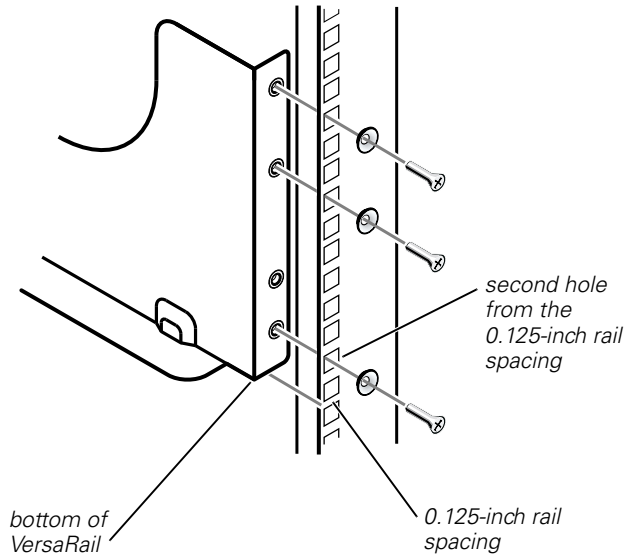

Figure 1-2. Aligning the VersaRail
2. Align the VersaRail with the rack's front vertical rail (see Figure 1-2).
3. Position the VersaRail's mounting flange against the inner side of the rack's front vertical rail so that the bottom of the VersaRail is aligned with the 0.125-inch spacing on the rack's front vertical rail (see Figure 1-2).
NOTE: Ensure that you use the mounting holes, as shown in Figure 1-2, to secure the front of the VersaRails to the rack. The second mounting hole from the bottom of the VersaRail is used to secure your system to the rack.